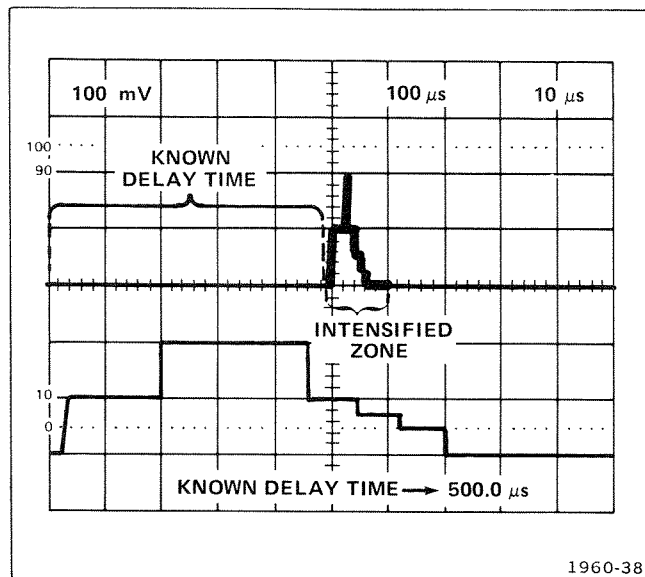

Fig. 1-12. Examining an event that occurs within a selected time interval after a known delay time in the delay-time mode.
- Set the appropriate triggering, position, deflection-factor, and sweep-rate controls for the desired dual-trace display. See the example in Figure 1-12.
- Set the delayed (B) sweep rate (i.e., the intensified zone length) for the desired time interval after the delay time selected in part c. Multiply the delayed (B) sweep rate by 10 to determine the actual displayed delayed (B) sweep time interval. See the example in Figure 1-12.
- Observe the magnified event to be examined on the delayed (B) sweep.